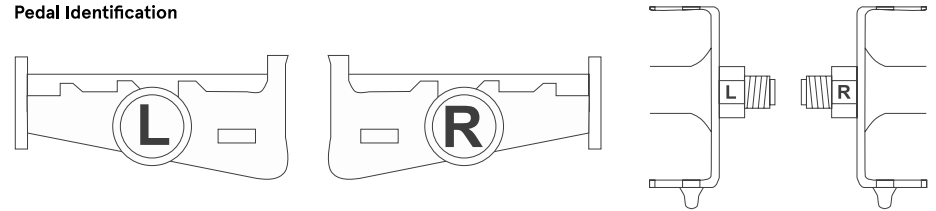
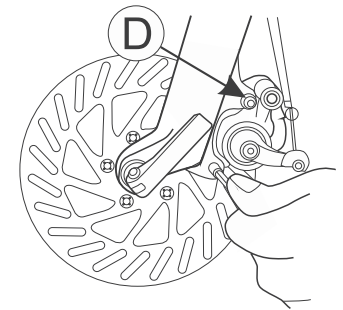

Fig. 14
Fig. 19
Step 5: Installing Pedals (Refer to Fig. 14)
To install new pads, remove the brake caliper from the fork or frame by unscrewing hex bolts D (**Fig. 19**). Unscrew (left/counterclockwise), the smaller hex bolt inside allen bolt B (Fig.14). Lift up and pull the inner pad downward, using the protruding tab. Slide a thin slot screwdriver under the outer pad and lift it up. Hold the screwdriver in this position and remove the pad with a pair of long-nosed pliers.